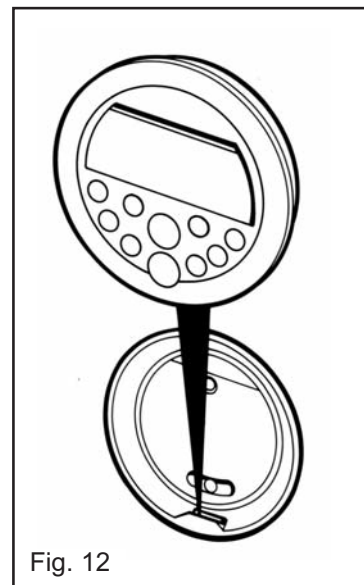

Fig. 12
- Fit the Handset on to the backplate by locating the tag on to the slot in backplate as shown (fig. 12).